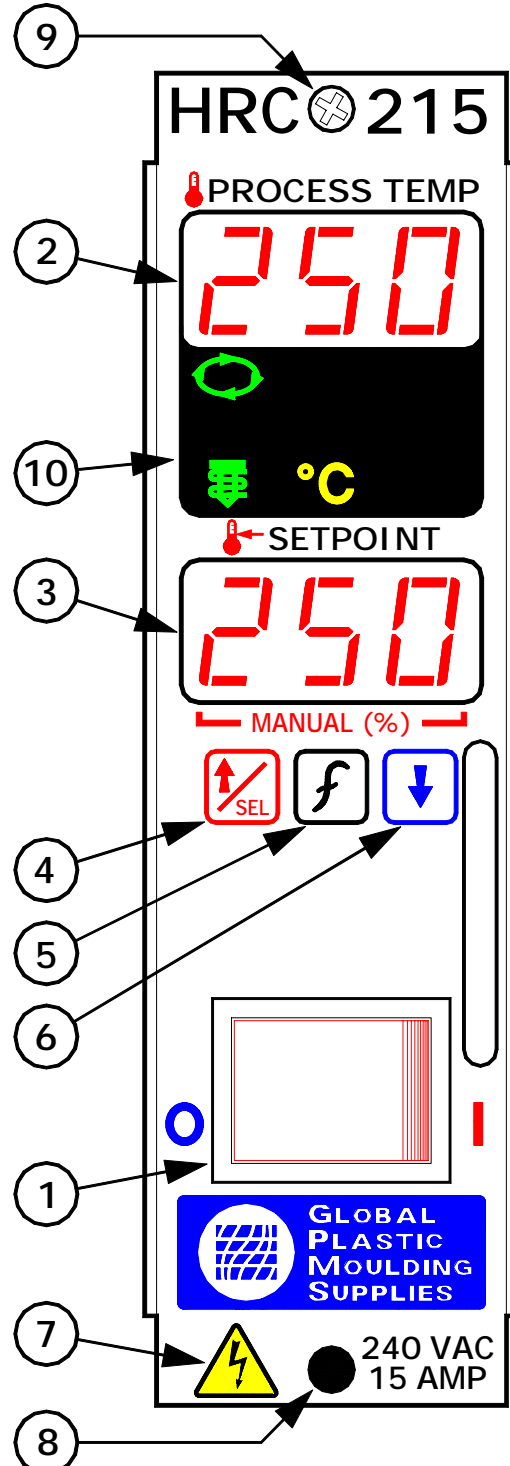

Figure 1
Check the controller red power switch (Fig. 1 Item #1) insuring that it is in the "Off" (O) position. Pull the plunger of the black locking device (Fig. 1 Item #8) back into the "out" position.
**Note:** For CE compliance it is necessary to install the supplied retention / locking screw (Fig. 1 Item #9) through the controller into the mainframe. This is to prevent inadvertent controller removal while the mainframe system is under power.
Refer to Figure 1 to become oriented with the controller displays, indicators and user controls.